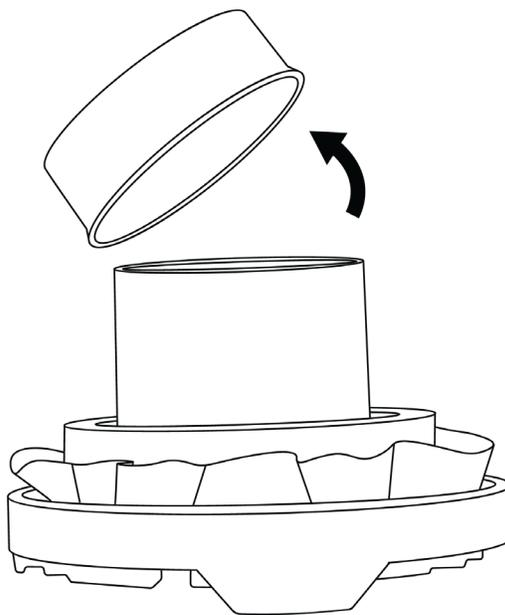

Figure 4 Remove lid from other side of soil sample ring
6. Turn the soil sample and remove the other lid (Figure 4).